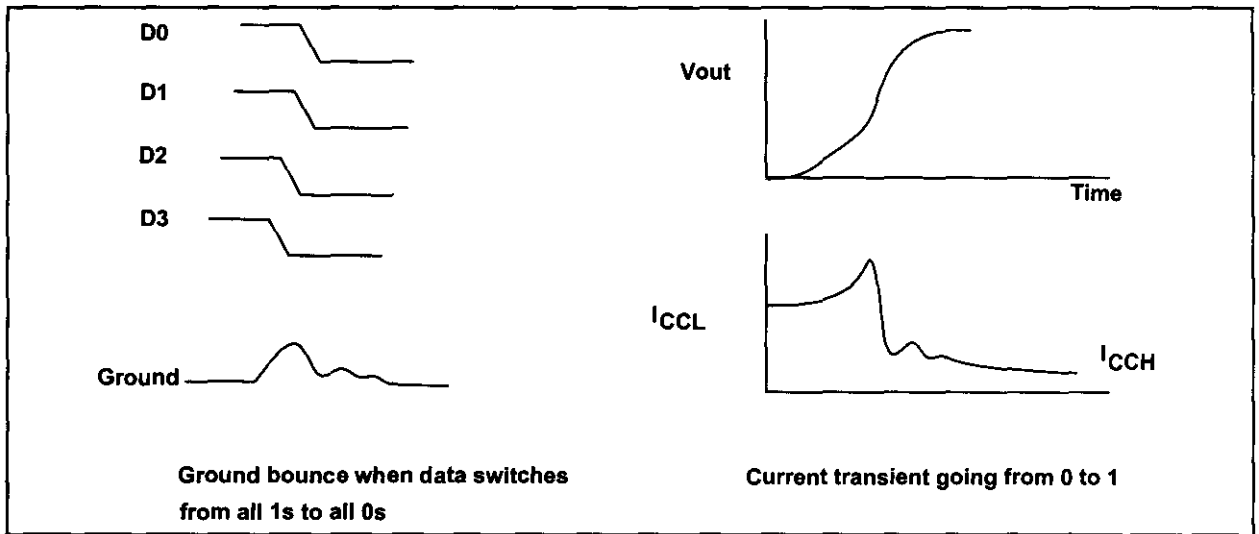

Figure 26-10. Ground Bounce and Transient Current for Output Transitions
2. Use logics with a minimum number of outputs. For example, a 4-output is preferable to an 8-output. This explains why many designers of high-performance systems avoid using memory chips or the drivers and buffers of 16- or 32-bit wide outputs since all the outputs switching at the same time will cause a massive flow of current in the ground pin, and hence cause ground bounce (see Figure 26-10).
In the TTL family, the change of the output from low to high can cause what is called *transient current*. In totem-pole output when the output is low, Q4 is on and saturated, whereas Q3 is off. By changing the output from the low to high state, Q3 becomes on and Q4 becomes off. This means that there is a time that both transistors are on and drawing currents from the  $V_{CC}$ . The amount of current depends on the  $R_{ON}$  values of the two transistors and that in turn depends on internal parameters of the transistors. However, the net effect of this is a large amount of current in the form of a spike for the output current, as shown in Figure 26-10. To filter the transient current, a  $0.01\ \mu\text{F}$  or  $0.1\ \mu\text{F}$  ceramic disk capacitor can be placed between the  $V_{CC}$  and ground for each TTL IC. However, the lead for this capacitor should be as small as possible since a long lead results in a large self-inductance and that results in a spike on the  $V_{CC}$  line [ $V=L\ (di/dt)$ ]. This is also called  $V_{CC}$  bounce. The ceramic capacitor for each IC is referred to as a *decoupling capacitor*. There is also a bulk decoupling capacitor, as described next.